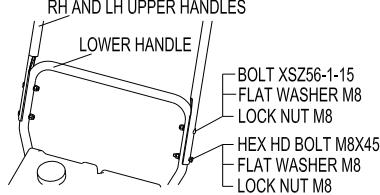

FIG 2
**2.2.1** Assemble the RH and LH upper handles to the lower handle with (3) M8x45 carriage bolts, M8 washers, and M8 nuts. (FIG 2)
**2.2.2** Insert (1) M8x45 hex hd bolt, M8 washer, and M8 nut into lower left side of handle. Leave this bolt loose until chute control rod bracket is installed. (FIG 2)